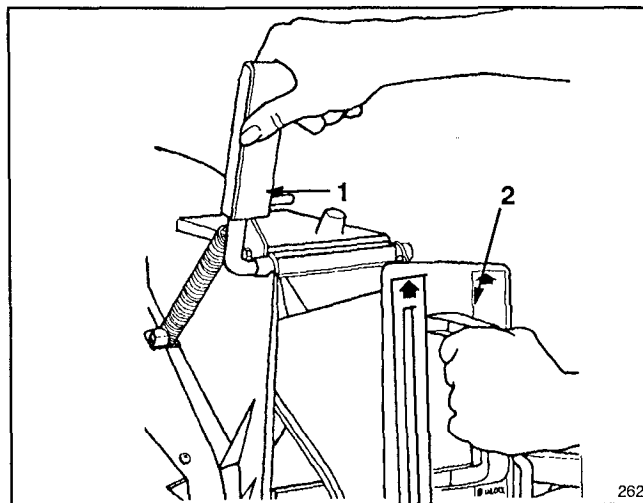

Figure 3
2. Open the discharge door by pulling forward on the handle and moving it rearwards (Fig. 3). Hold the discharge door handle to prevent the spring-loaded door from closing while inserting the plug.
3. Since the plug is slightly wider than the discharge tunnel opening, rotate the plug clockwise slightly while inserting it (Fig. 3). Make sure the arrow on the plug decal is pointing upwards.